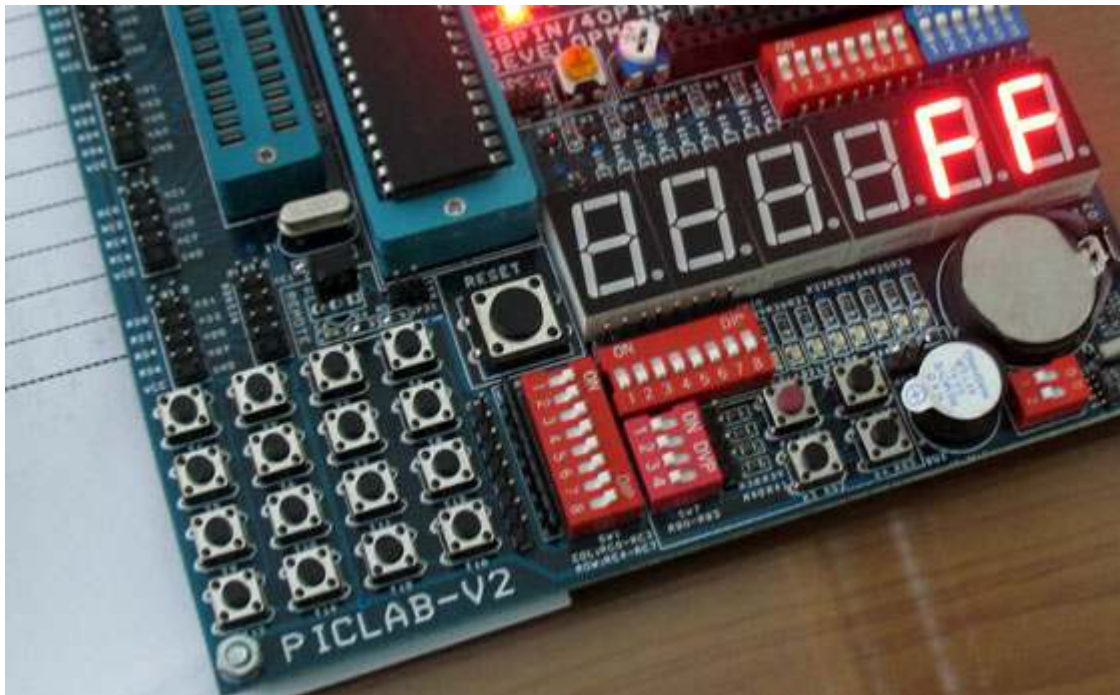

Figure 5-3 Set up communication ports and power supply for target board
- 3) Implement the menu command Debugger → Settings to select the USB as the communication port, and the board will use its own power supply (i.e. disable "ICD2 power from the target board". It is shown in Figure 5-3.